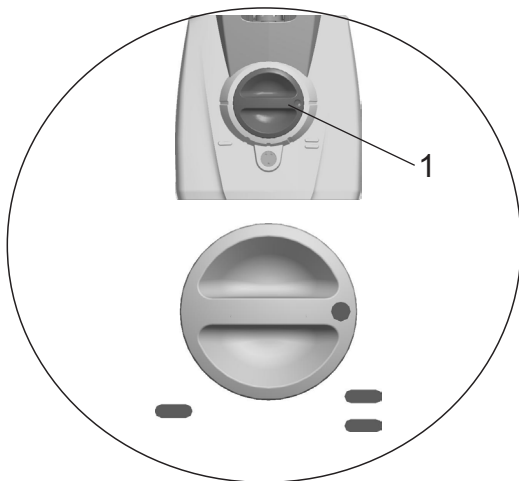

Fig. 5
– Depress the knob (Fig. 5/1) and turn it to any of the five positions.